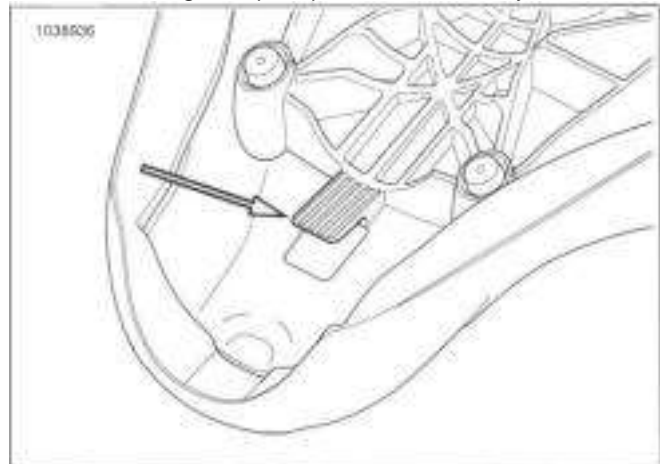

Figure 3-159. Seat Tongue (Typical)
- b. Install seat (5) rearward through the grab strap.
- c. See Figure 3-159. Engage seat tongue in frame bracket.
- a. Install grab strap (4) if removed.
- b. See Figure 3-159. Engage seat tongue in frame bracket.
- a. See Figure 3-159 and . Engage seat tongue in frame bracket.